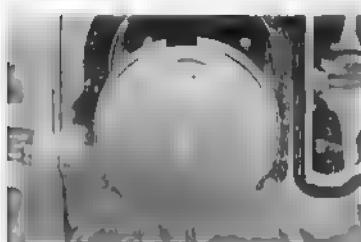

Fig. 3-58 Assembling the piston
The piston must be assembled so that the "IN" ① stamped on the piston head is toward the top when the engine is in the normal attitude. (Fig. 3-58)